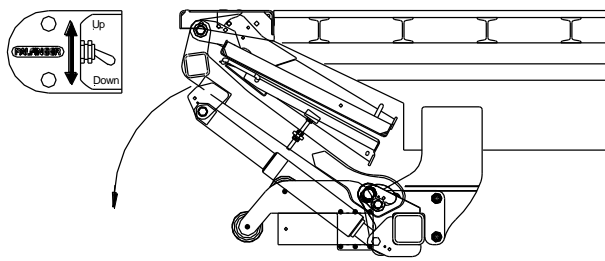
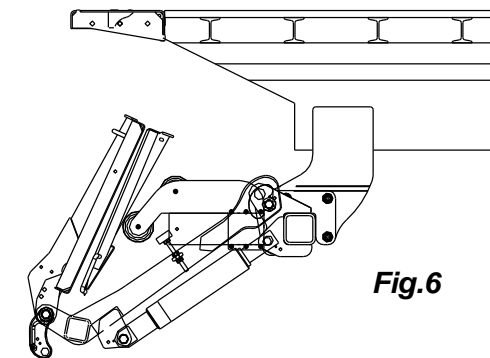

Fig.5
Fig.6
2. Use the **Down** function of the toggle switch to lower the gate from the stored position, **Fig.5**, until the platform rest on the wheel, **Fig.6**.